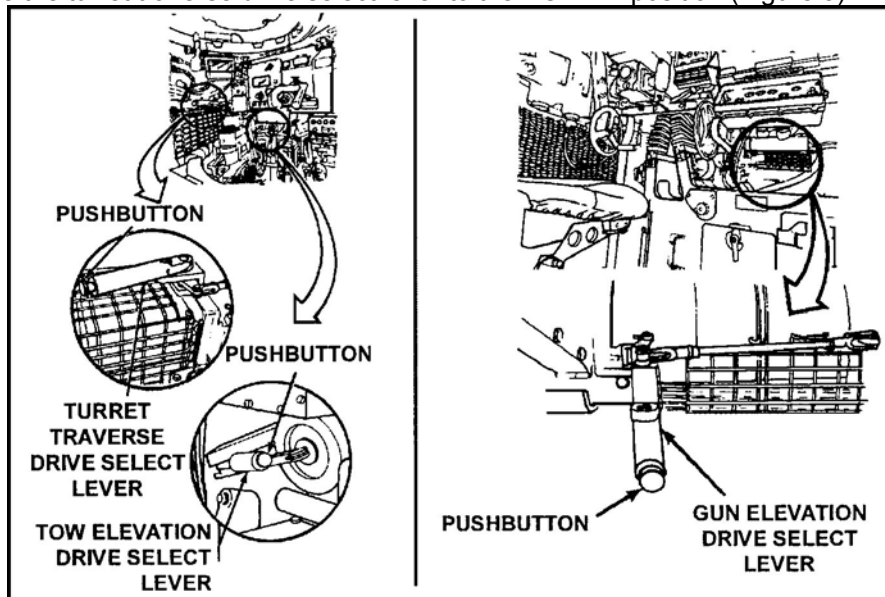

Figure 3. Select levers.
- f. Move the turret traverse drive select lever to the POWER position (Figure 3).